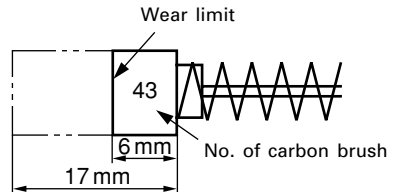

Fig. 13
3. Inspecting the carbon brushes (Fig. 13)